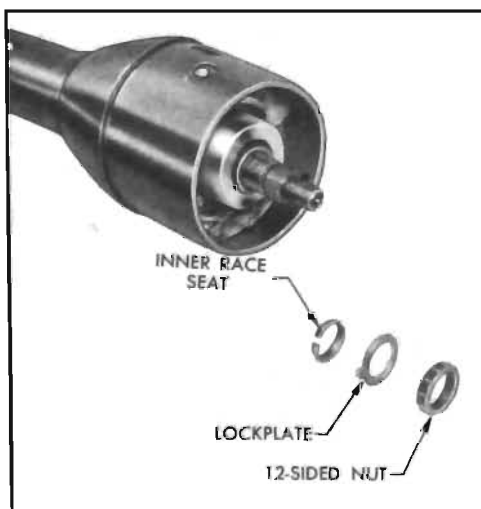

Figure 8-80—Removing 12-Sided Nut, Inner Race and Lockplate
4. Straighten locking tabs of lock plate (see Figure 8-80) and remove 12-sided nut, lock plate, and inner race seat from upper portion of mast jacket.